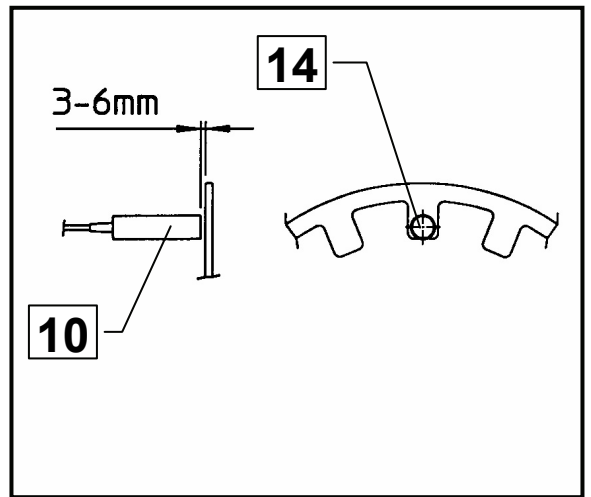

Fig. 9
- The speed sensor (10) must be arranged on the cams in such a way that the middle of the sensor is opposite the inside edge (14) of the cams (fig. 9).